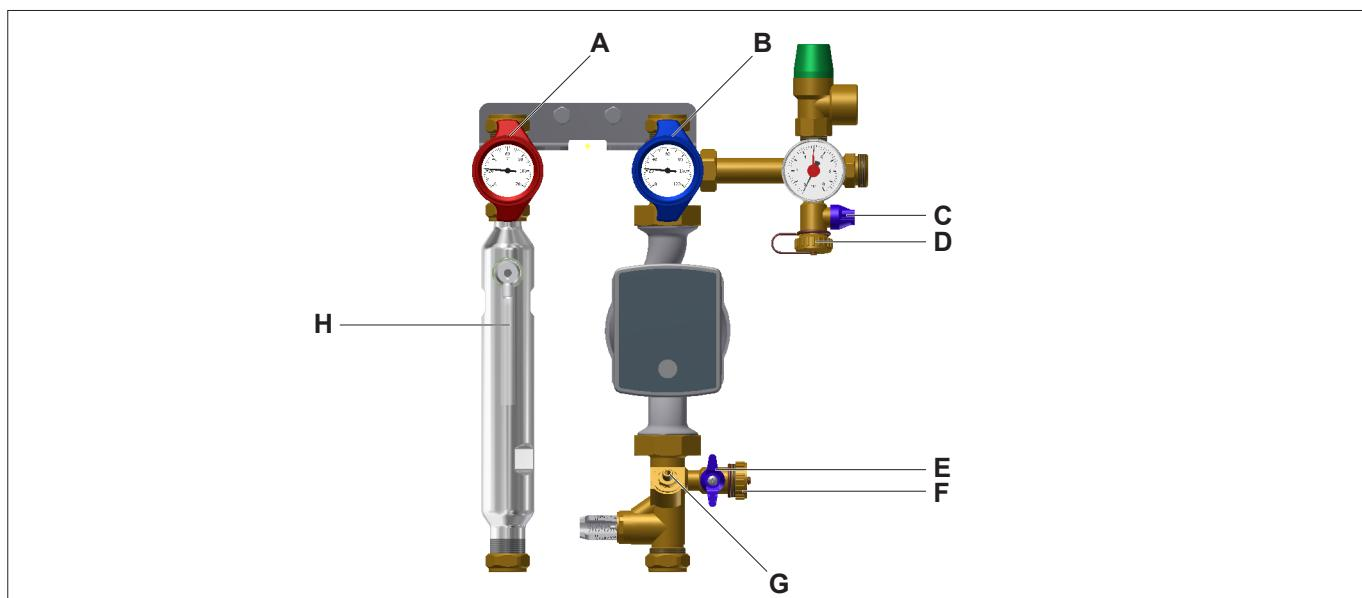

Fig. 7: Filling and rinsing connection
- Open the ball valve (Pos. C, see Fig. 7 on page 12) at the supply line.
- Open the supply line ball valve (multifunction armature, Pos. A, see Fig. 7 on page 12) by rotating the thermometer handle (see “thermometer handle settings” on page 6).
- Close the return line ball valve (multifunction armature, Pos. B, see Fig. 7 on page 12) by rotating the thermometer handle (see “thermometer handle settings” on page 14).
The multifunction armature of the supply and return line (multifunction armature, Pos. B, see Fig. 7 on page 12) can be opened at 45° (emptying position, see Fig. 7 on page 12) if required.
- Open the regulating and gate valve (Pos. G, see Fig. 7 on page 12).
- Open the return line ball valve (multifunction armature, Pos. B, see Fig. 7 on page 12) during the rinsing and filling process 2-3 times to vent the circulation pump.
- Close the filling and emptying valve (Pos. E, see Fig. 7 on page 12).
- Close the filling and emptying valve (Pos. C, see Fig. 7 on page 12)
- Open the return line ball valve (multifunction armature, Pos. B, see Fig. 7 on page 12) by rotating the thermometer handle (see „thermometer handle settings” on page 14).
- Remove the filling hose (pressure hose) of the external rinsing and filling pump from the supply line (Pos. C, see Fig. 7 on page 4) and the rinsing hose from the return line (Pos. F, see Fig. 7 on page 4) of the safety valve and screw the caps to the connections.
- Check the Fig. 7 on page 12 for tightness.
- Open the supply and return line ball valves (multifunction armatures, Pos. A+B, see Fig. 7 on page 12) completely.